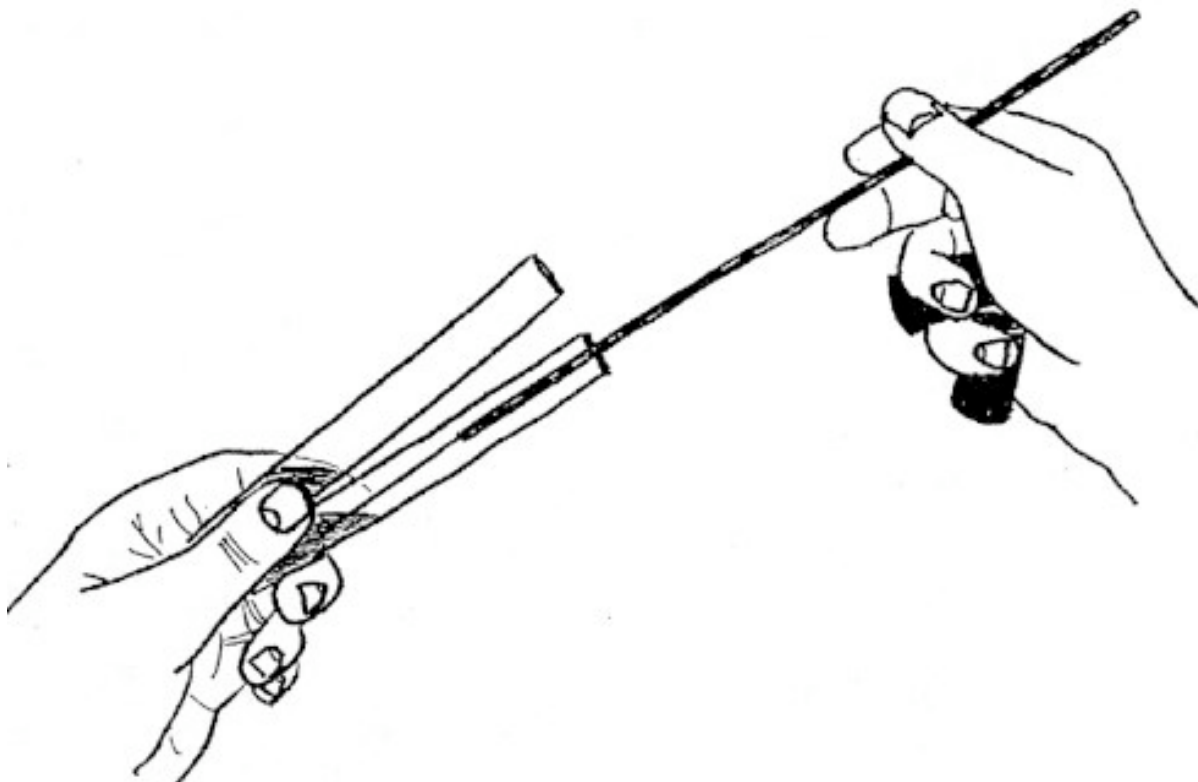

FIGURE B3. THE TUBE-TO-TUBE TRANSFER
2. Prior to picking up the loop or needle, the tubes are positioned in one hand as shown on the left in Figure B3. The plugs and caps should have been loosened (but not yet removed).
4. The plugs or caps are removed with the **last two fingers** of the hand holding the inoculating needle or loop, leaving the thumb and index finger free to hold and manipulate the transfer utensil with the middle finger as a guide and support as shown on the right in Figure B3. Lightly flame the tops of the tubes.